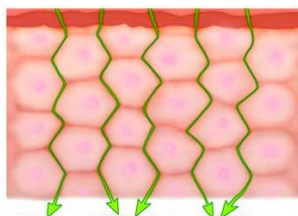

Figure 1: Intercellular lipid pathway
1. Intercellular lipid pathway (Figure 1)
As shown in Figure 1, the stratum corneum consists of cells known as corneocytes. The spaces between the corneocytes are filled with substances such as fats, oils, or waxes known as lipids. Some chemicals can penetrate through these lipid-filled intercellular spaces through diffusion.